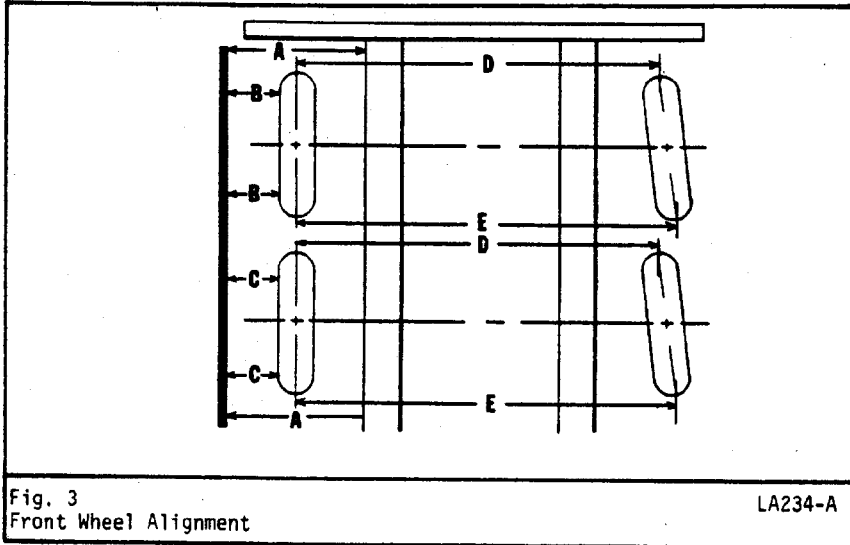

Fig. 3
Front Wheel Alignment: To obtain maximum tire life, the front wheels must be kept in proper alignment. Front wheel alignment should be checked periodically, and corrected if necessary. This is more critical on a tandem axle machine than on a single axle machine. If the wheels are not properly aligned, the tires will "fight" each other, causing abnormal tire wear. This is caused by one set of tires pointing in a slightly different direction than the other set of tires. To correct, or check front wheel alignment the following procedure should be followed: (See Fig. 3.)
- Operate the steering until the two left wheels are in line with each other, and straight ahead with respect to the carrier frame. This may be checked as illustrated in Fig. 3. Place a straight edge next to the wheels. Make sure it is parallel to the frame by measuring at (A). When the straight edge is in position, measure from it, to the milled area where the tire lugs are located. This is
- indicated by (B) and (C) in Fig. 3. When the wheels are in line with each other, (B) should equal (B), and (C) should equal (C), but (B) does not have to equal (C). A drag link adjustment may be necessary to correct any misalignment.
- Once the front left tires are in alignment the toe-in must be checked. Toe-in may be checked by scribing a chalk link around the circumference of each wheel, at the center of tread. The difference between the distance (D) on the front of the tire, and (E) on the back of the tire indicates the amount of toe-in. The measurement of (D) should be $1/8" \pm 1/32"$ (3.175mm) less than the measurement at (E). This may be changed by adjusting the length of the tie rod.